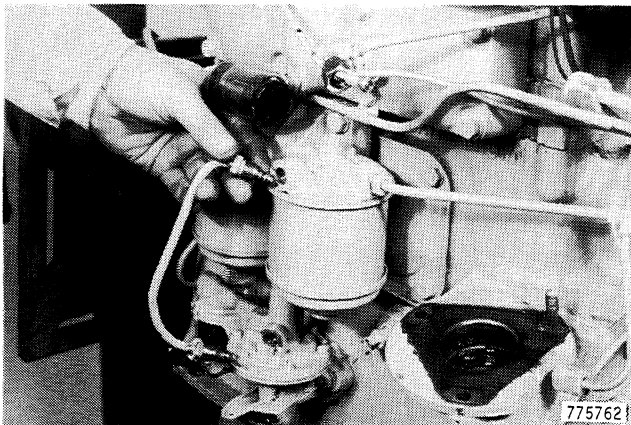

Figure 16
3. Remove the tube between the fuel feed pump and the fuel filters, Figure 16.